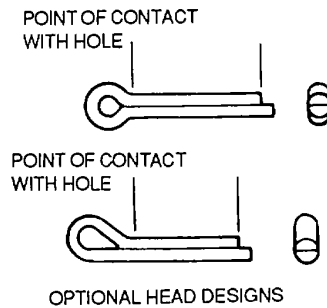

Figure 2-52. Cotter Pins
g. *Cotter Pins.* Cotter pins are used to secure bolts, nuts, pins, screws, and in any other applications where such locking is required. Figure 2-52 illustrates cotter pin designs.